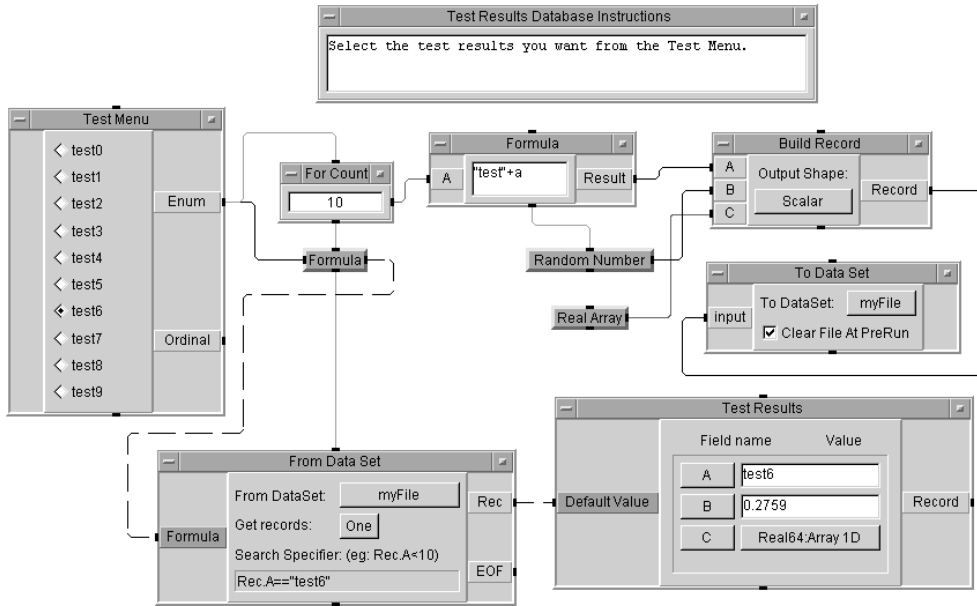

Figure 143 Adding a Menu to the Search Operation
- 13 The program should look like Figure 143. Run the program a few times to verify that it works. Since the